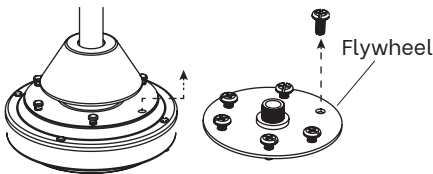

Fig.6a
1. Remove six preassembled upper blade fixing screws/washers from the motor assembly and six preassembled flywheel fixing screws from the flywheel (Fig.6a).